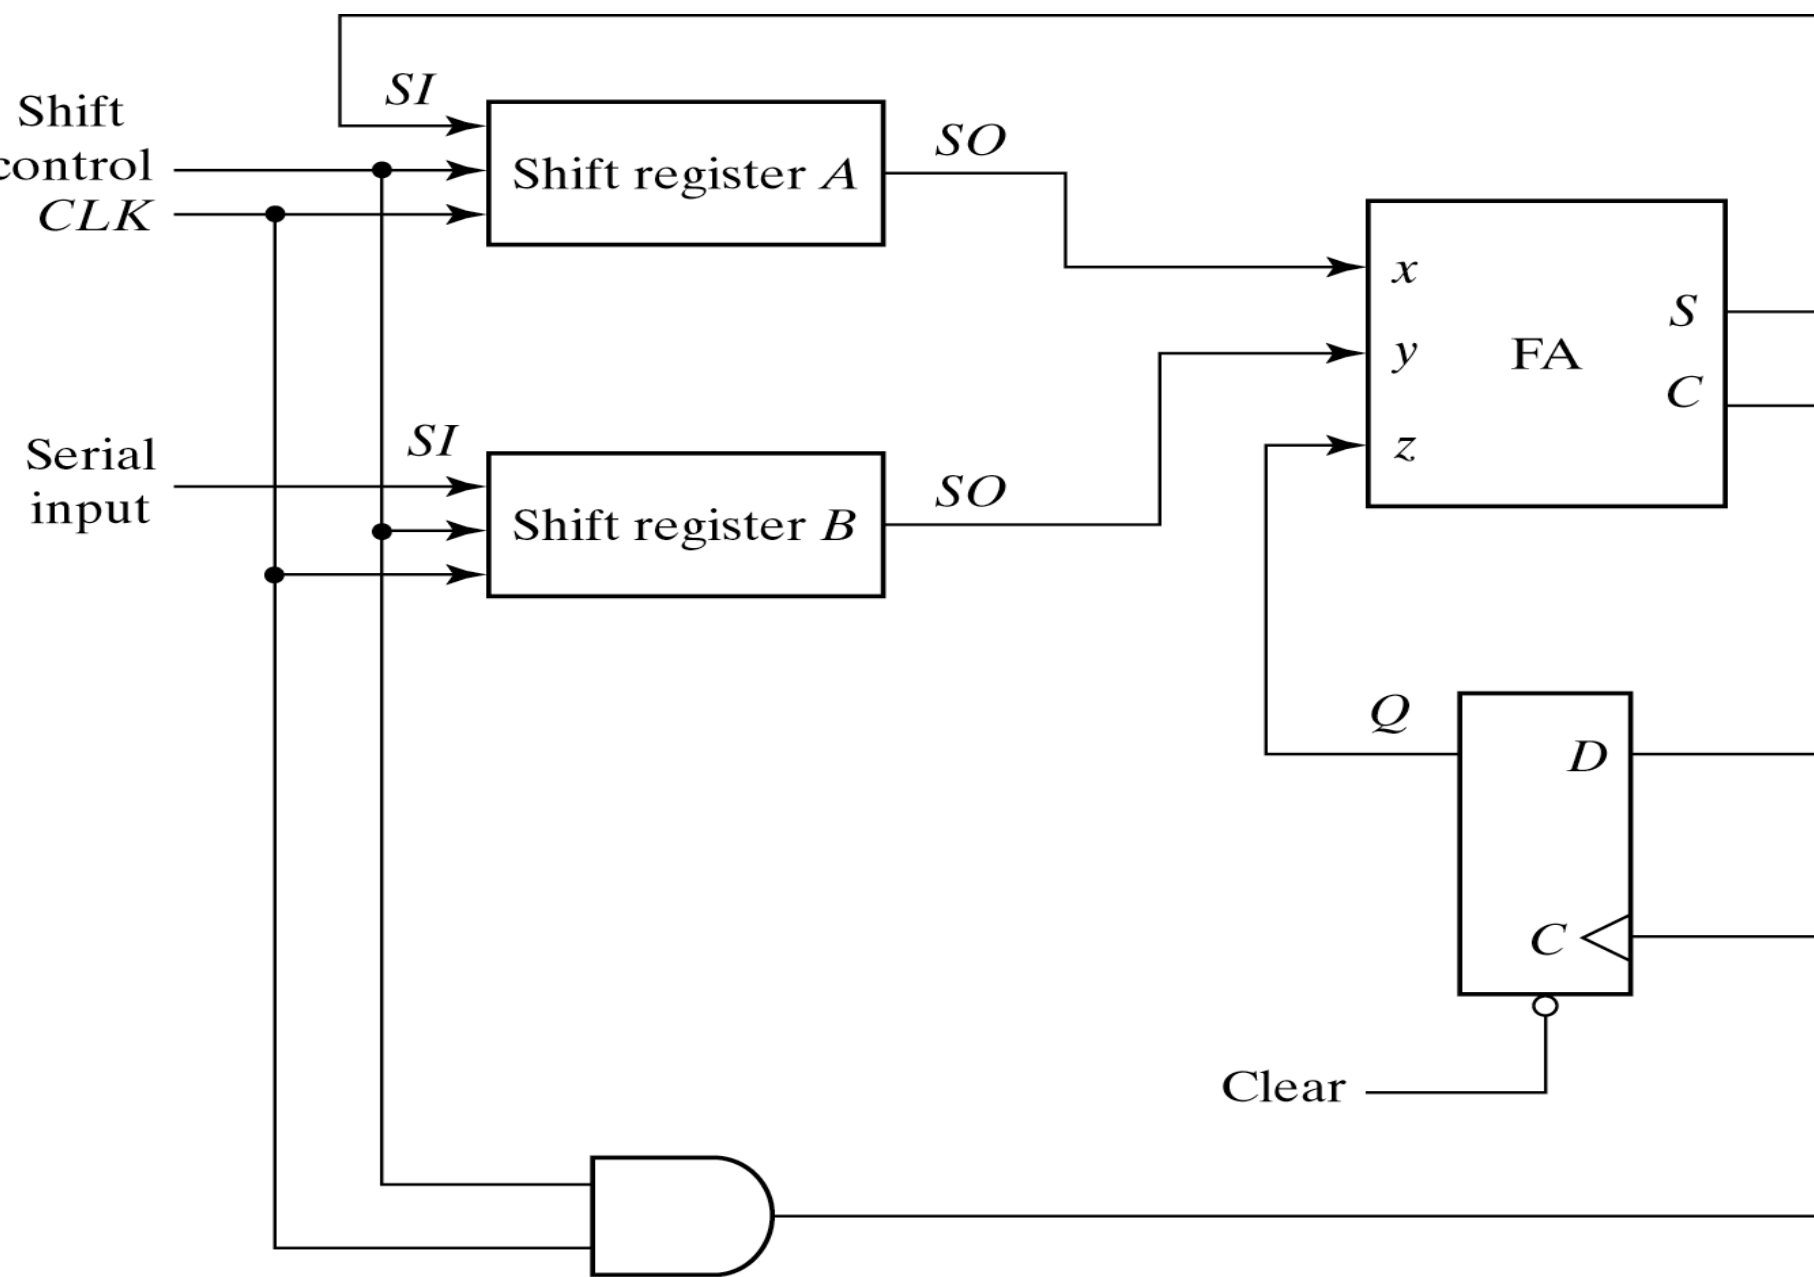

Fig. 6.5 Serial adder
- Bits are added one pair at a time through a single full adder. [Fig. 6-5]